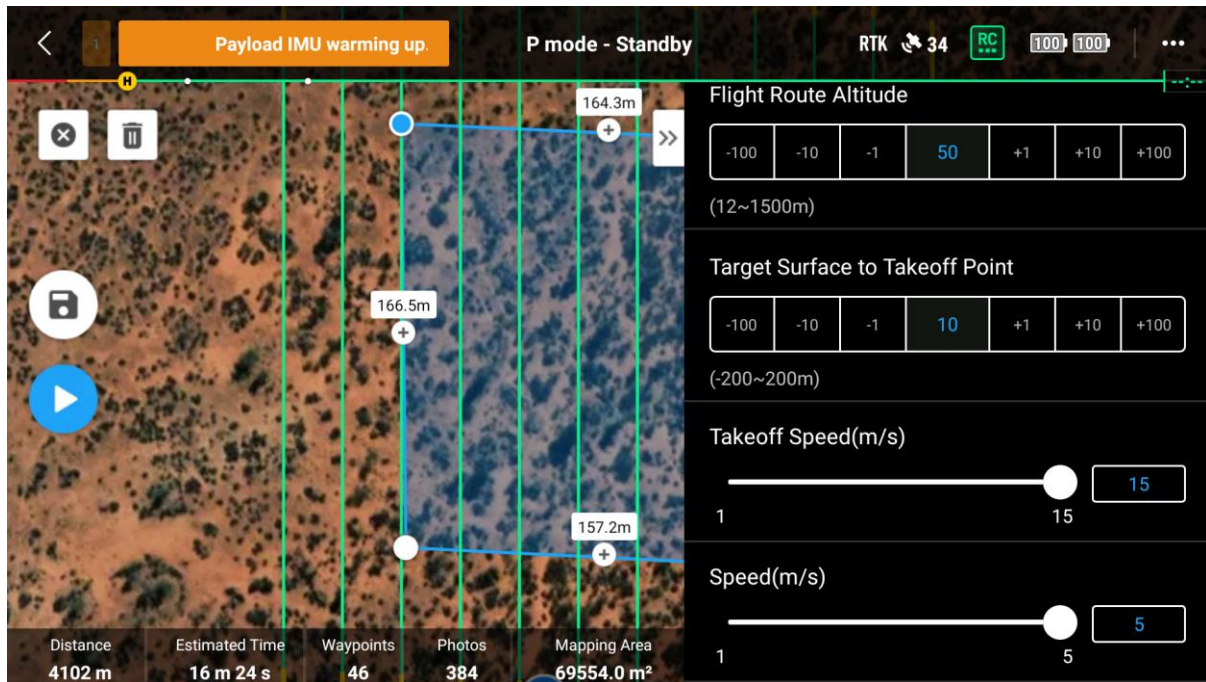

Figure 38: This screenshot shows the 'Payload IMU warming up' message. Wait until this is complete.
1. **Wait until the message 'Payload IMU warmed up' appears on the screen.** Figure 38 shows message that appears while IMU is still warming up. Note that this can take 5 – 6 mins from turning on the M300. Do not fly before the Zenmuse L1 payload is ready.